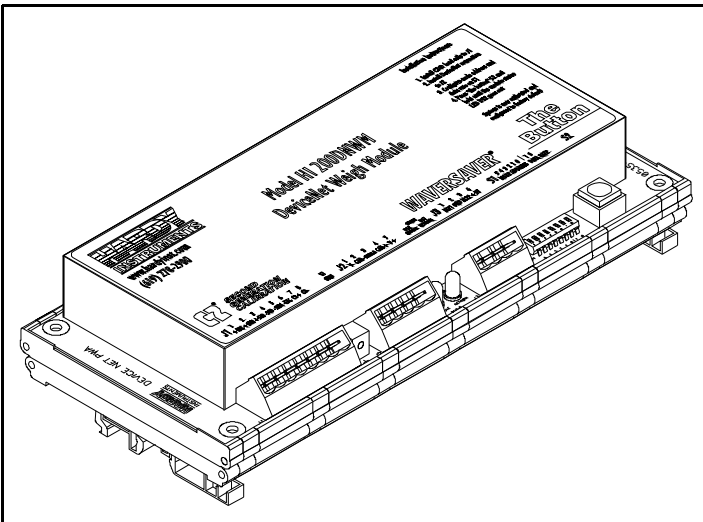

FIG. 3-8 WEIGH MODULE INSTALLED IN THE DIN RAIL
- Step 7. The HI 200DNWM is completely in the Din Rail assembly ready for installation. (See Fig. 3-8)